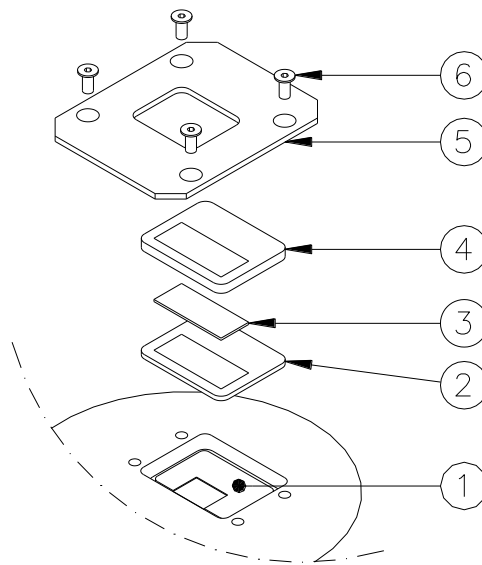

Figure 28 - Filter Replacement
- remove the mounting plate (Figure 28- n°5) and the filter holder (Figure 28- n°2-3-4)
- place a new filter (Figure 28- n°3) inside the filter holder (Figure 28- n°2-3-4)
- position the filter holder in the relevant seat (Figure 28- n°1)
- position the mounting plate (Figure 28 – n°5) and fasten it with the relevant screws HSFH M5x12 (Figure 28 – n°6), tightening torque is 2.5 Nm